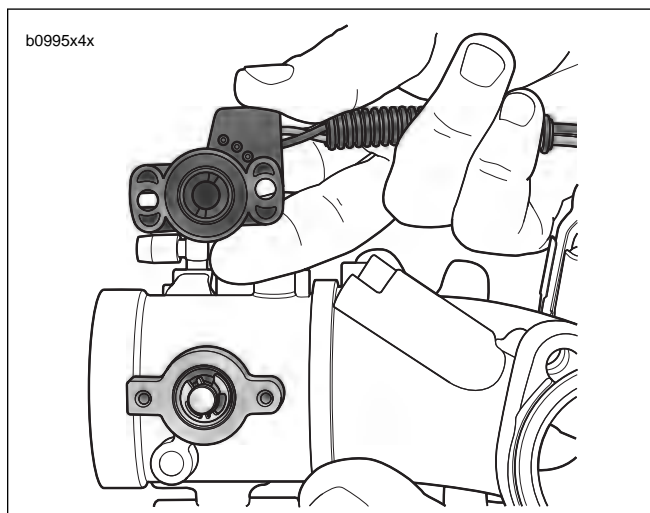

Figure 4-88. Throttle Position Sensor
3. See Figure 4-88. Remove two screws and washers to detach TP sensor.
1. See Figure 4-88. Apply LOCTITE 222 (purple) to threads of fasteners.